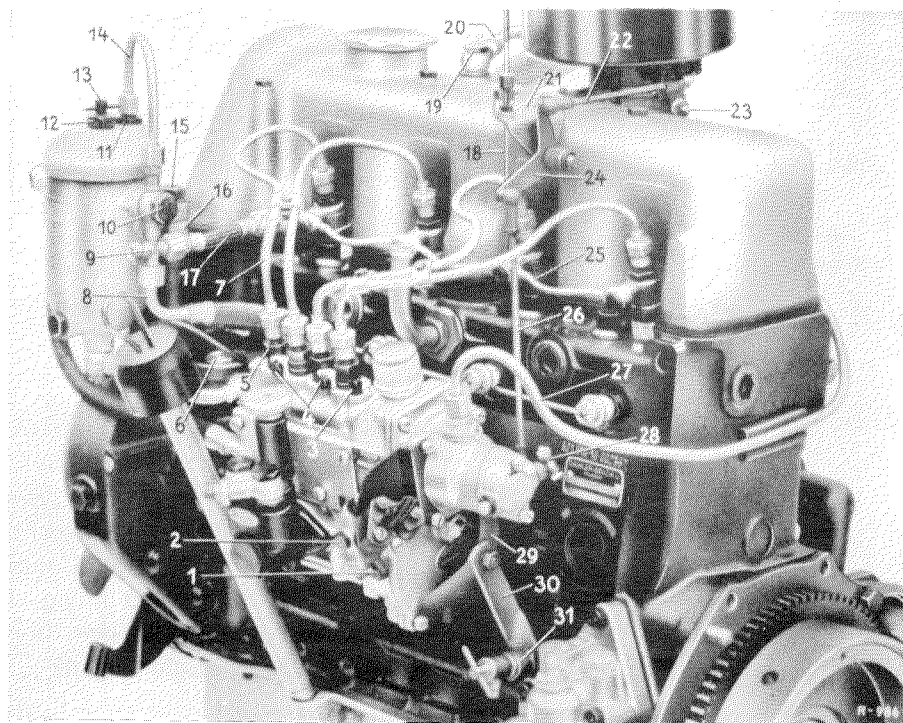

Fig. 07-9/1
Note: The rotary handle of the wire cable for the idling adjustment at the instrument panel must completely be turned to the right so that the wire cable (18) is just loose at the angular lever (24), if in this position; if necessary, loosen clamping screw and re-tighten (see Fig. 07-9/1).
2. Now check the connection rod (26) extending from the angular lever (24) at the cylinder head cover to the lever (28) of the mechani-
cal additional control (Stupser) at the injection pump governor for correct length, proceeding as follows (see Fig. 07-9/1). Unhook the connection rod (26) at the angular lever (24) and press downwards to the idling stop.
In this position, i.e., throttle in idling position and lever (28) at the injection pump governor in idling stop position, a distance between ball socket and ball head of approx. 1 mm should exist, that means, for hooking in at the ball head of the angular lever (24), the connection rod (26) should allow to be lifted by approx. 1 mm (see Fig. 07-9/1).